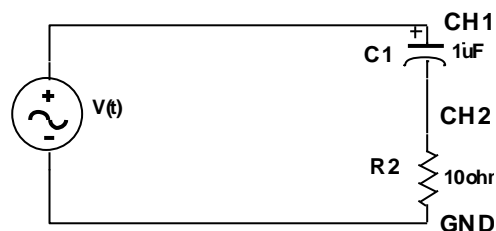

Figure 7.5 :Circuit of Part C.
2. Implement the circuit in figure 7.5. Check the source signal after assembly.
For the circuit shown in figure 7.5: